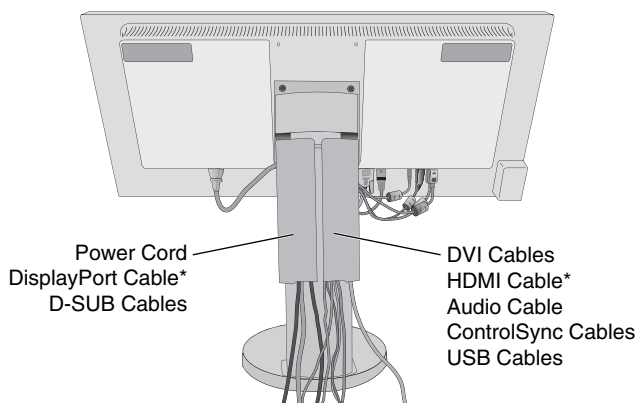
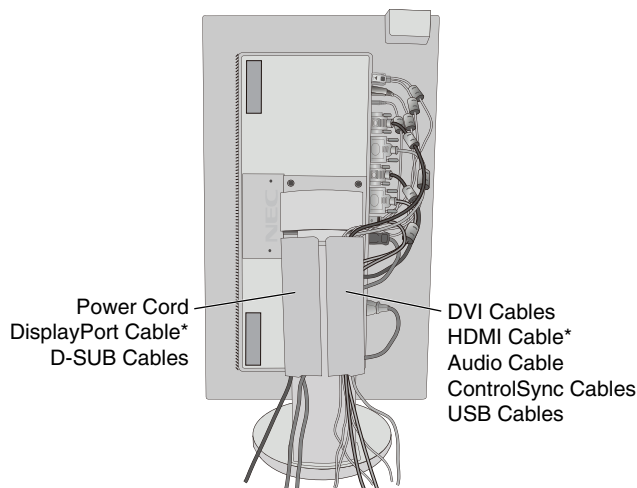

Figure C.2
Figure C.3
- To keep the cables neatly organized, place them into the cable management system that is built into the stand. Place the cables in the hooks firmly and evenly (**Figure C.2** and **Figure C.3**).